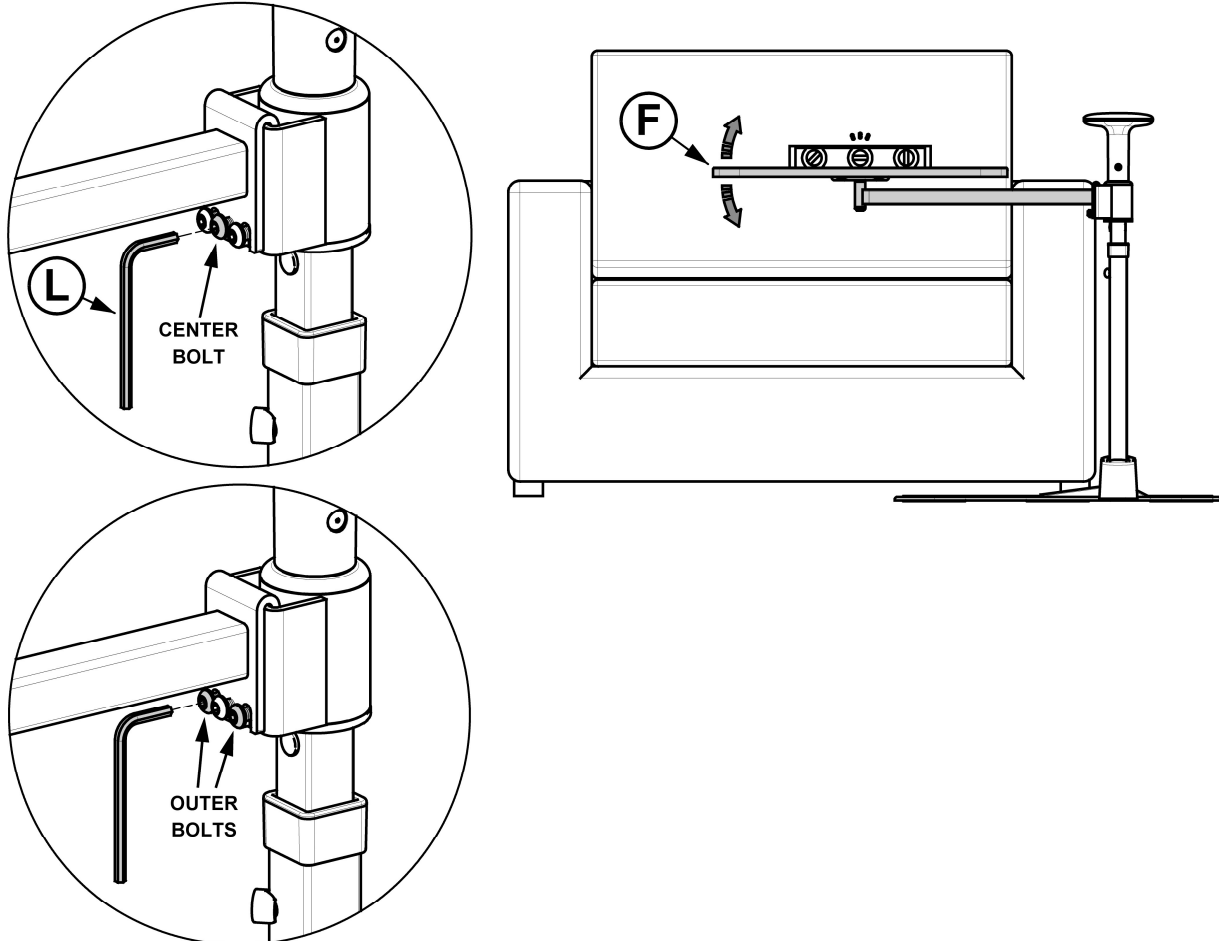

FIGURE 10
10. To level tray: Swing Tray Arm **F** into position over chair. Tighten **CENTER BOLT** with Tool **L** until Tray is raised to level, then tighten **OUTER BOLTS** with **L** evenly to lock the tray angle as shown in *FIGURE 10*.